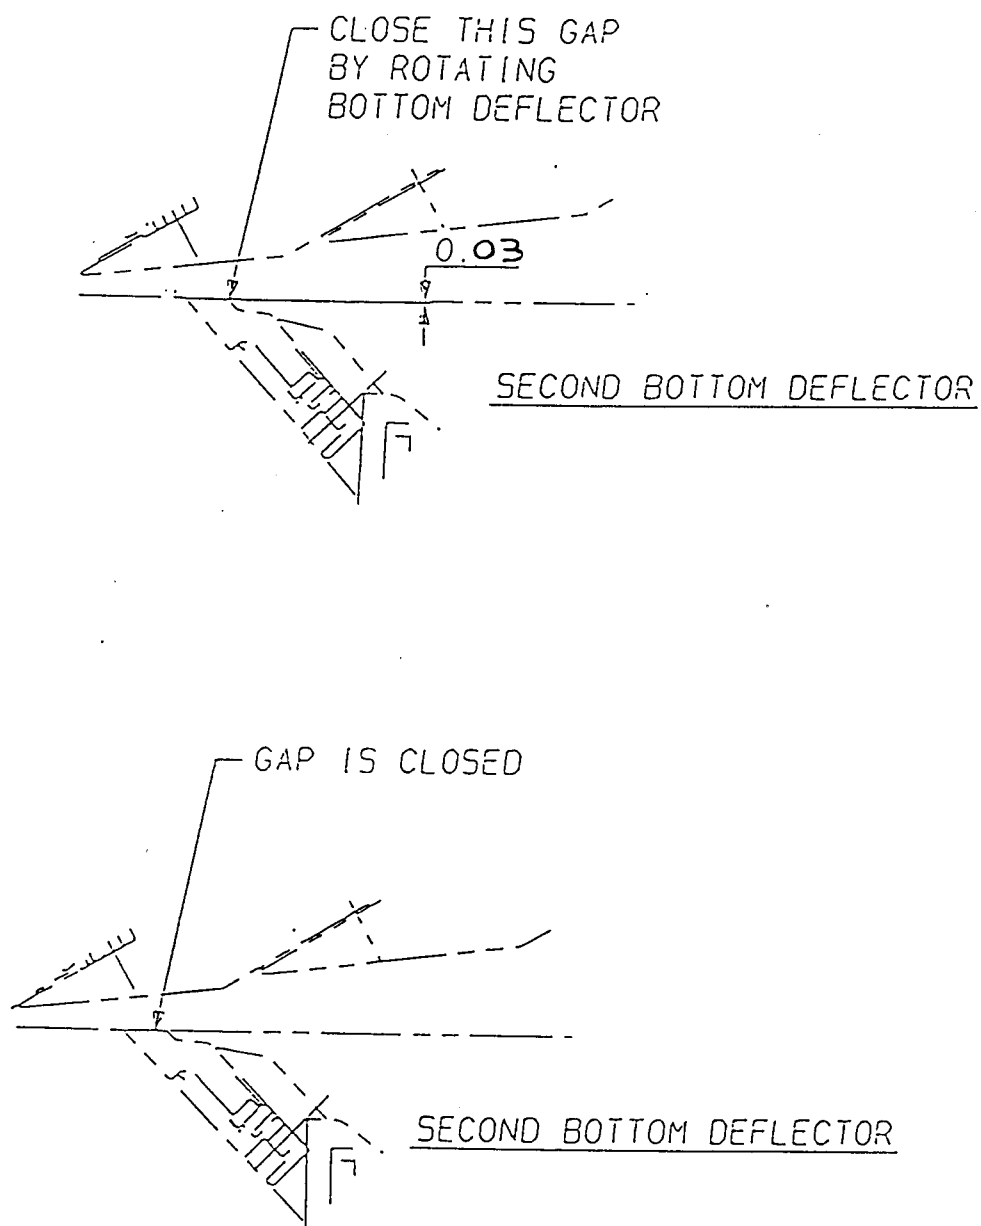

FIG. 5
- 4) Rotate last bottom deflector (while maintaining blade tip in position) level with new "tight line" (see Fig. 5).